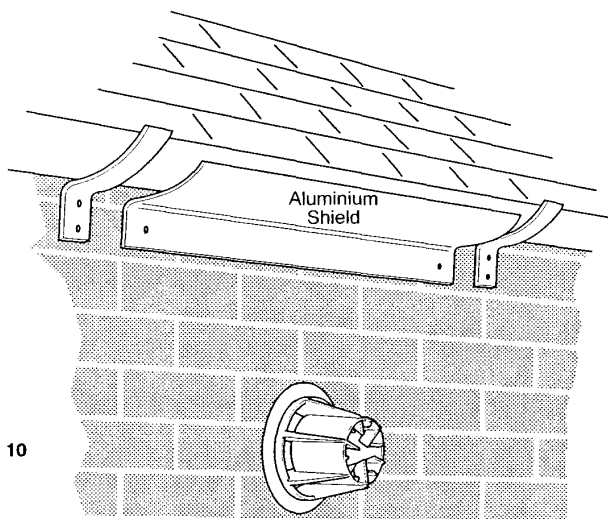

Fig. 10
3. If the terminal is fitted within 1 metre (39in) of a plastic gutter, within 500mm (19¹/₂ in) of a painted eave or a painted gutter, an aluminium shield of at least 1 metre (39in) long should be fitted to the underside of the gutter or painted surface. An air space of 5mm (³/₁₆ in) should be left between shield and gutter (Fig. 10).